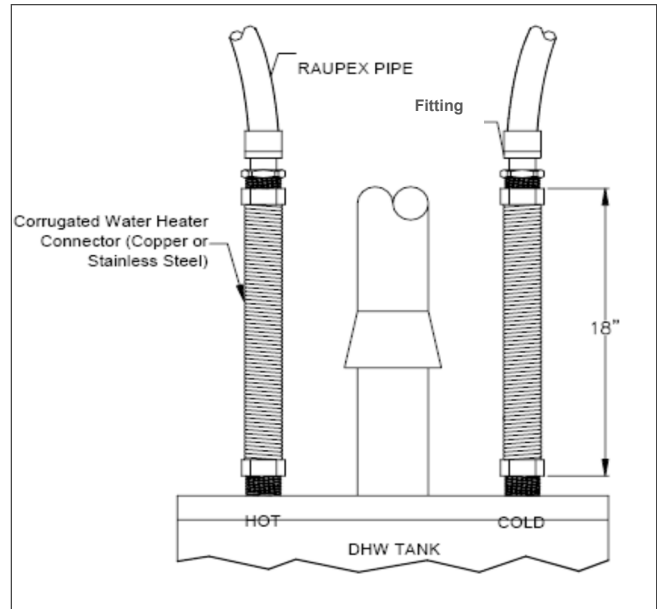

Fig.1: DHW water tank with 18" of metallic transition piping
“PEX tubing shall not be installed within the first eighteen (18) inches (457 mm) of piping connected to a water heater.” A minimum of 18 in (45 cm) of metallic transition piping must be used for both of the direct connections to water heater connections. Corrugated metal water heater connector pipes of copper or stainless steel are the typical materials for this application (see Fig.1)